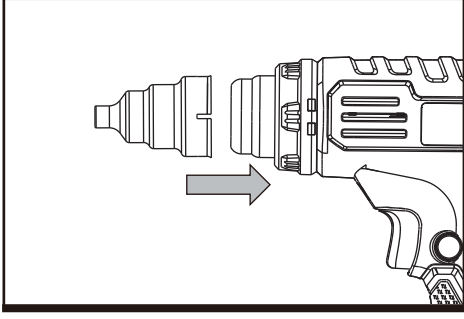

Fig.E1
1) Concentrator nozzle (See fig. E1)